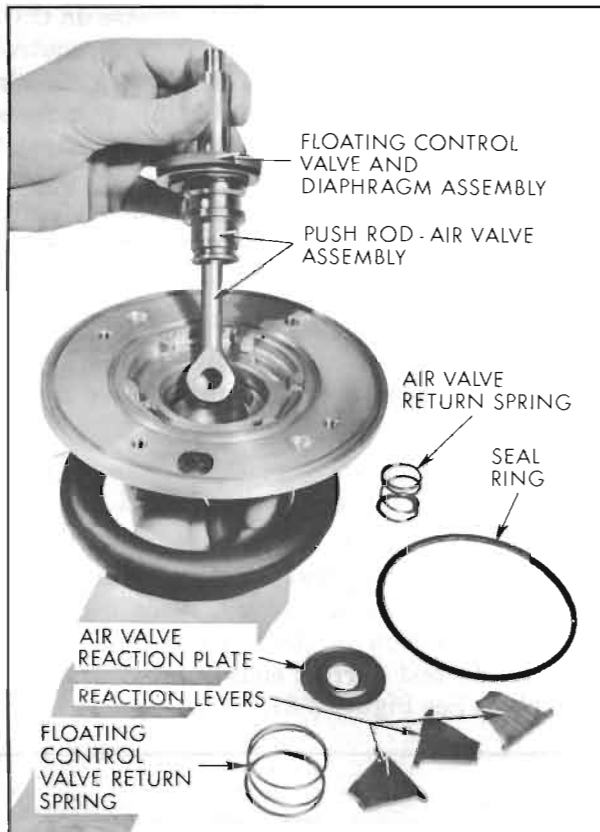

Figure 9-18—Removing Power Piston Parts
10. From power piston assembly remove reaction disc, three reaction levers, air valve reaction plate, floating control valve return spring, and air valve return spring. Remove power piston seal ring. See Figure 9-18.